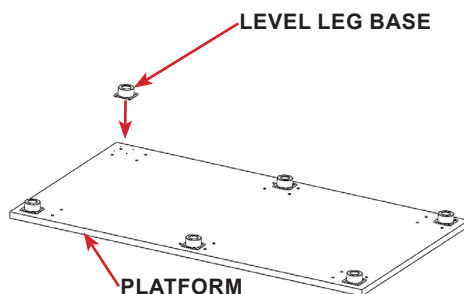

FIGURE 2.8 - Leg Socket Installation
STEP 1: Align each leg base with the pre-drilled holes, secure to the platform using hardware provided. See FIGURE 2.8